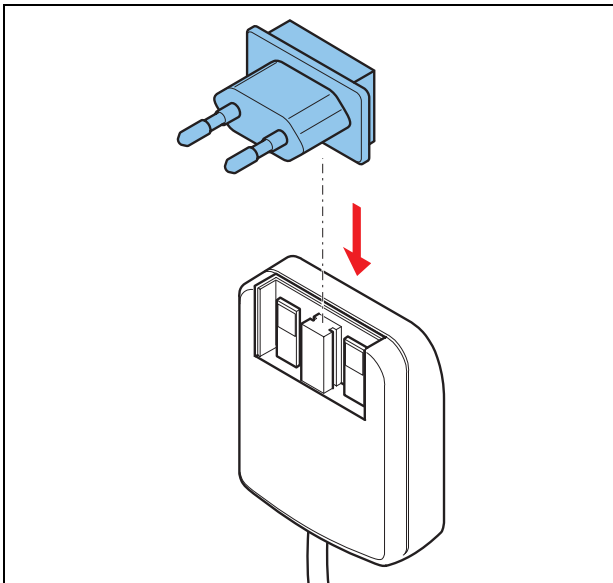

figure 3.2: Attaching power plug to power supply
- 2 Attach the correct power plug for your country (see figure 3.2), and then plug the power supply into the mains. The battery will start to charge.
- 4 Plug the power supply into the mains (see figure 3.2). The WAP will power up (the middle LED B should be red. The two outer LEDs A and C should be off).